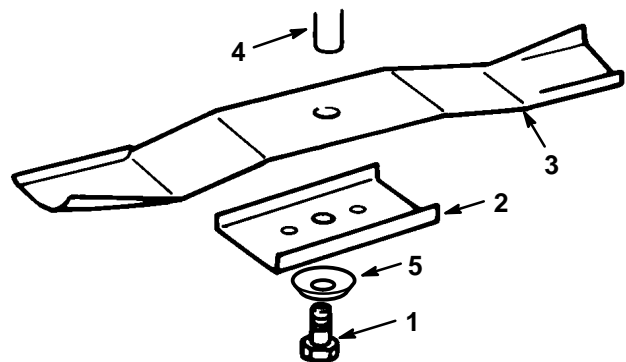

Figure 23
3. Remove the bolt (5/8" wrench), washer, retainer and blade (Fig. 23). A block of wood may be wedged between the blade and the mower to lock the blade when you are removing the bolt.